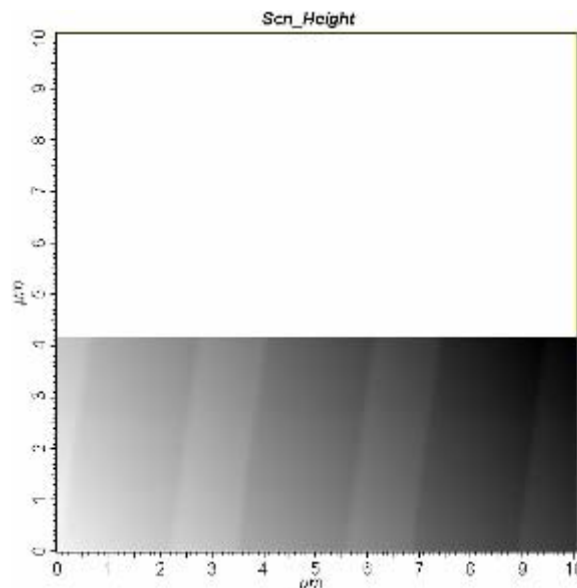
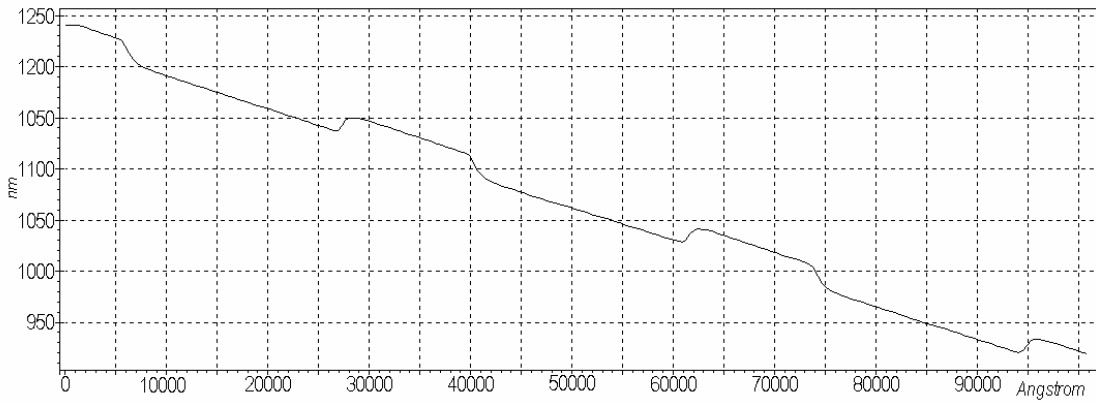

Fig. 3-22
Fig. 3-23
- The tip starts scanning the sample surface row-wise with the scanned surface image (the image of a rectangular grid in our example) appearing gradually in the image display window (Fig. 3-22).
- The univariate data representation field alternately represents the profile lines of the scanned surface topography (Fig. 3-23).
The tilt can be subtracted directly during the scanning (i.e. in on-line mode) using **Subtract** button switch. The button is set to **None** (Fig. 3-22, Fig. 3-23) by default.